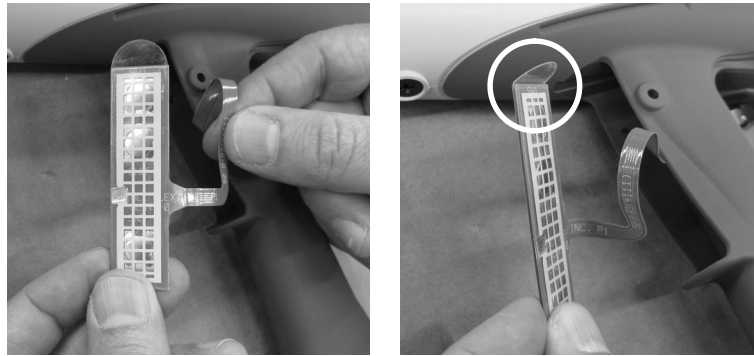

Figure 6-11 Installing the Trigger Switch – Step 3
3. See Figure 6-11. Straighten the ribbon cable, then bend the pull tab at the top of the switch so that it is perpendicular to the switch.